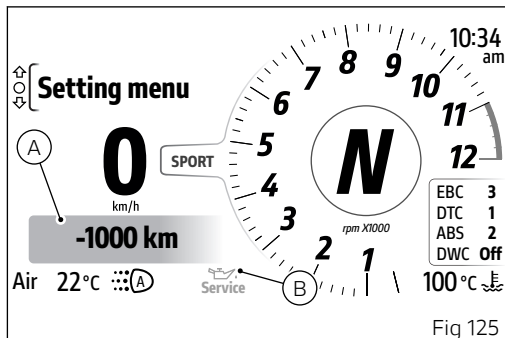

Fig 125
Once the threshold of the service coupons has been reached and upon every Key-On, the corresponding amber yellow signal is activated in large mode (A, Fig 125) for 5 seconds, then the signal toggles to small mode (B, Fig 125): "Oil service" (C), "Desmo Service" (D), "Annual service" (E).